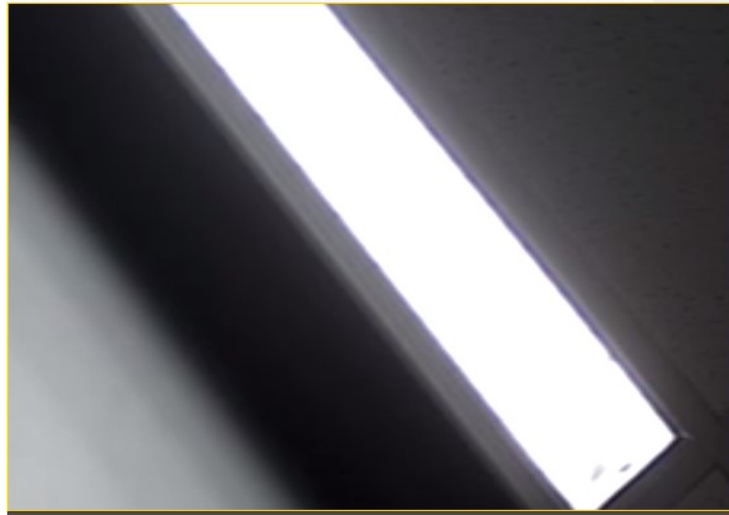

Figure 14-21 Selected area for zoom-in display
2. After you click the **Zoom in** button, frame the area to be zoomed in within the video playback window (press and hold the left button of the mouse and move it. The video playback window displays a red rectangle frame, which is the selected area). The selected area is zoomed in, as shown in Figure 14-21.